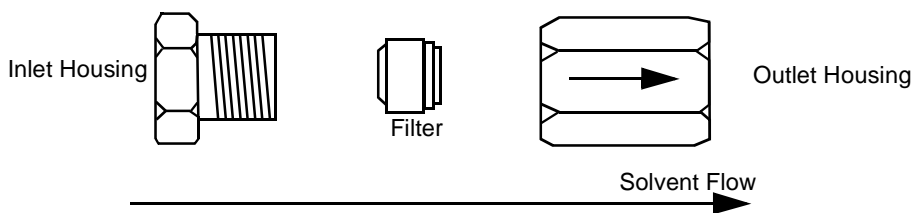

Figure 4-19 Replacing the Solvent Inline Filter
2. Hold the outlet housing with a 5/8-inch wrench while you loosen the inlet housing with a second 5/8-inch wrench (Figure 4-19).